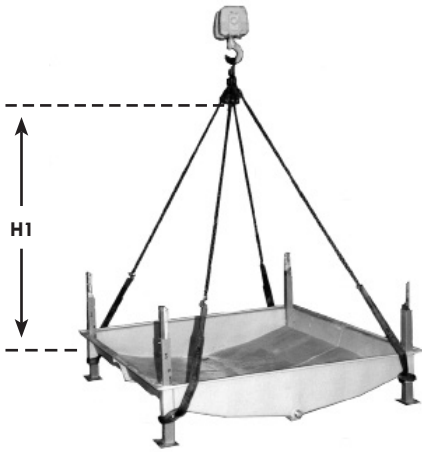

Figure 1. Lifting basin section
2. Figures 1 and 2 show the proper rigging of the sections for units that ship in two sections. Position the lower section on the steel support and bolt in place.